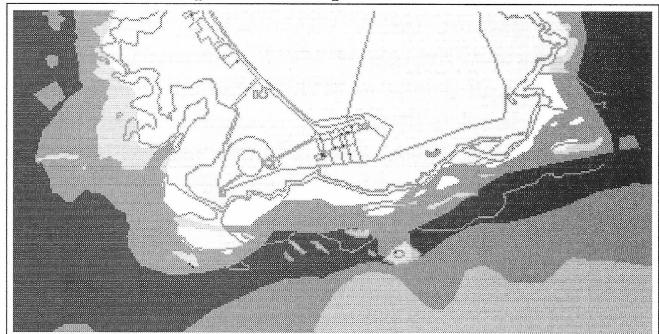

Figure 5: Overlap and missing data due to differences in compilation scale.
Figure 5 contains an example of a mismatch of data due to different scales of compilation. The detailed coastline is from large scale Ordnance Survey (OS) data – probably compiled at 1:2 500. The polygons are from UKHO data compiled at a far smaller scale than the OS data. It is easy to see the gaps and areas of overlap that the generalisation of the chart compilation has produced.